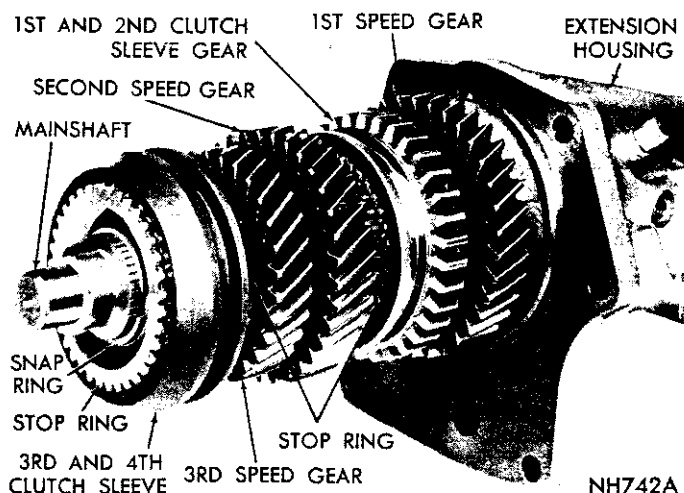

Fig. 21—Mainshaft Gear Identification
(4) Refer to (Fig. 21) for location of various gears, synchronizer sleeves and clutches before disassembling mainshaft.